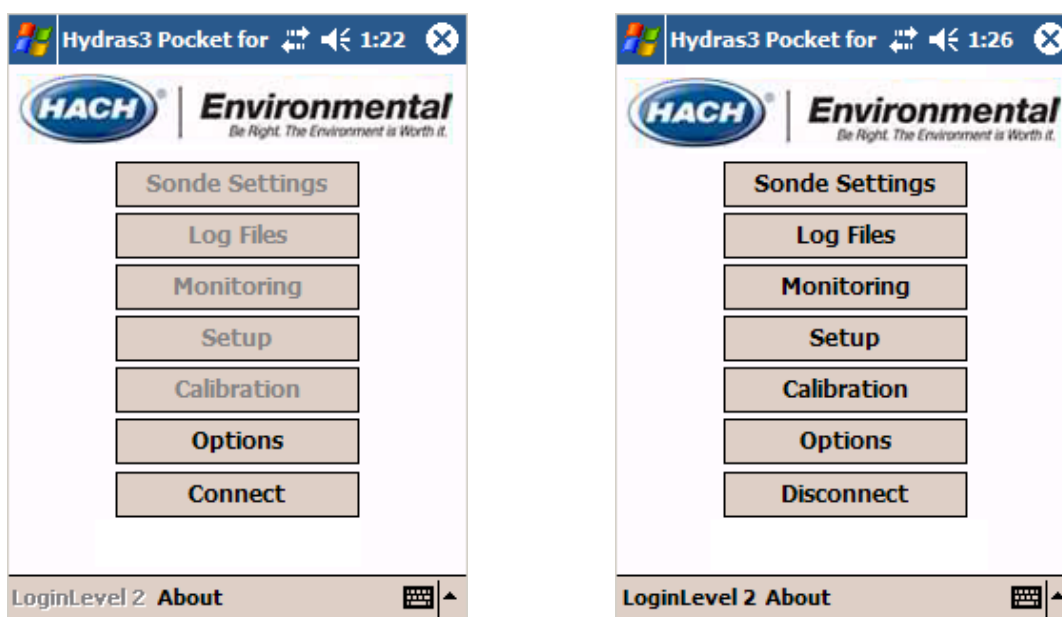

Figure 2 Hydras 3 Pocket main screen before and after connection to a sonde
2. Open Hydras 3 Pocket from the **START** menu on the PDA. The main screen will be displayed (Figure 2).
The Hydras 3 Pocket main screen (Figure 2) contains seven options for sonde operation or data management. Each option is detailed in Table 1.